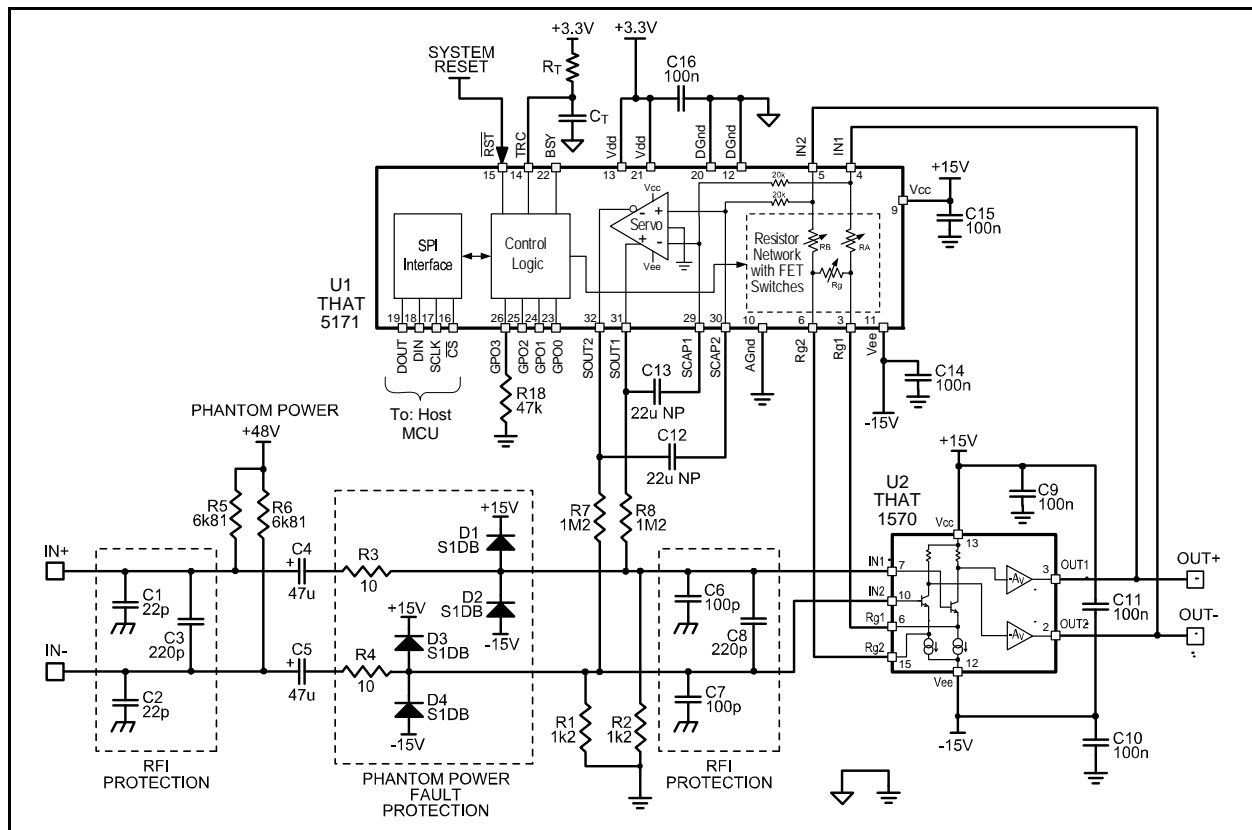
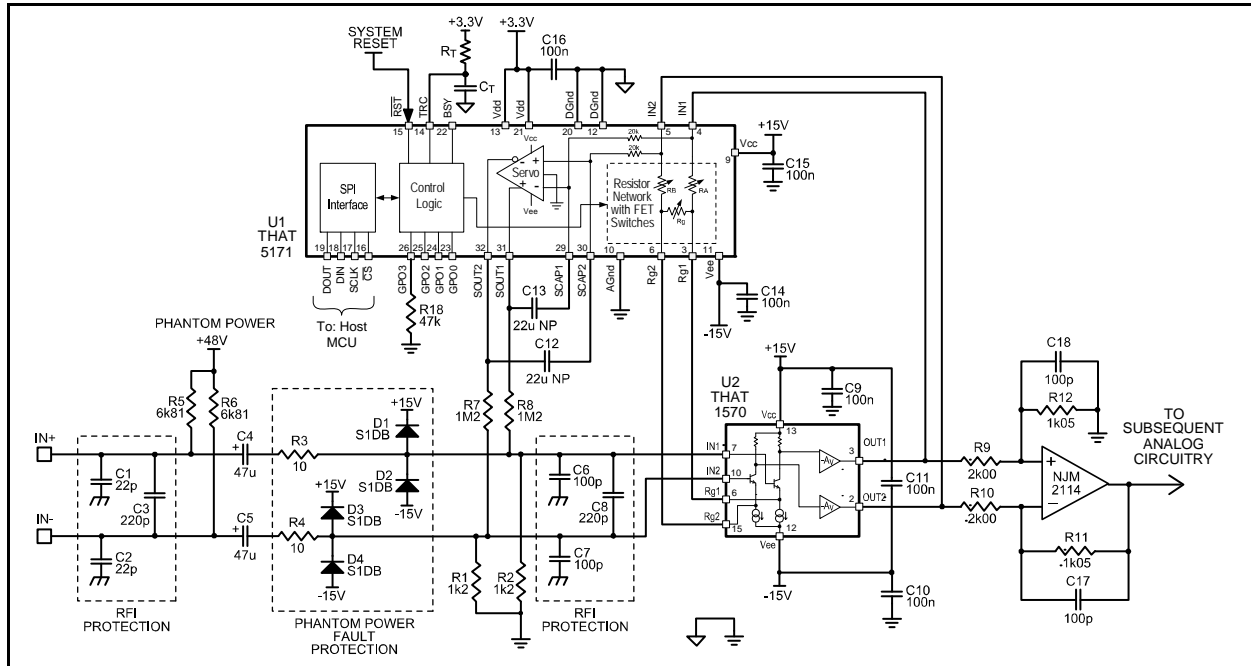

Figure 3. 5171/1570 basic application circuit.
Figure 4. 5171/1570 typical application with single-ended output.
A built-in zero-crossing detector can be used to restrict gain changes to times when the analog signal is very close to zero. The detector monitors the differential signal present between the IN1 and IN2 pins of the 5171. When enabled, it permits gain changes to take place only when the signal is within ±5mV. A timeout (set by external components RT and CT in figures 3~6) ensures that a gain change will always occur at the expiration of the timeout, in case the signal has not gotten within the voltage window by that time.
The combination of the input coupling capacitors (C4 and C5 in Figures 3~6), the bias resistors for the 1570 (R1 and R2 – which form a load for C4 and C5), and the servo, form a 2nd order highpass filter whose characteristics change with the gain setting. The Q of this filter is highest at the highest gain setting. (At low gains, the behavior is governed almost entirely by the input coupling network and bias resistors, since the poles split and the one related to the servo moves very low.) Assuming 1.2kΩ for R1 and R2, and 1.2MΩ for R7 and R8, we can set the highest Q to be about .63 (for approximately Butterworth response) if we choose C12 and C13 to be 1/2 the values of C4 and C5.
The circuit of Figure 3 shows the most basic application of the 5171 and 1570 to form a complete low-noise microphone preamplifier.
The circuit of Figure 3 offers differential gain that varies from 5.6 to 68.6dB. There is one large ~8dB step from 5.6dB to 13.6dB. Above 13.6dB, gain may be controlled in 1dB steps to +68.6dB. For single-ended analog outputs, the circuit of Figure 3 can be followed by a differential-to-single-ended converter, as shown in Figure 4. Here, the differential amplifier is configured for -5.6dB gain in order to minimize noise and maximize headroom at the output of the circuit. Including the 5.6dB attenuation in the differential amplifier, the system gain can be set to 0dB, or any gain from +8dB to +63dB in 1dB steps.
With the circuit of Figure 4, the maximum input signal levels remain the same, but the (now single-ended) output levels drop by 5.6dB due to the loss of the differential amplifier. When converting to single-ended signals, take care to select a low-noise opamp, and pay attention to the noise generated by the impedances. The component values shown in Figure 4 will largely preserve the dynamic range of the 1570 and 5171 combination, though they do compromise noise by 1dB at the lowest gain settings.
The circuits of Fig 3 through 6 include RFI protection in two sections. Small capacitors ( $C_1$  and  $C_2$ ) are used from the positive and negative signal inputs to chassis ground, along with a larger capacitor ( $C_3$ ) across the two inputs. These components should be located as close as possible to the input signal connector, and are intended to prevent RF from entering the chassis of the device.
- 2) **ZERO-CROSSING Mode:** Updates are made on the next output signal zero-crossing after a rising edge on the /CS pin. An RC time constant connected to the TRC pin ( $R_T/C_T$  in Figures 3~6) establishes a time-out period in case a zero-crossing does not occur within a desired time window. The zero-crossing time-out function operates as follows: